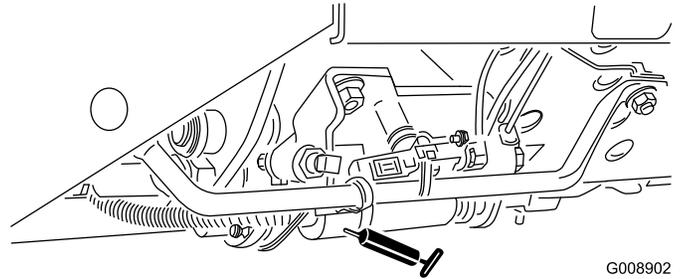

Figure 38
- Mow/transport slide (Figure 38)